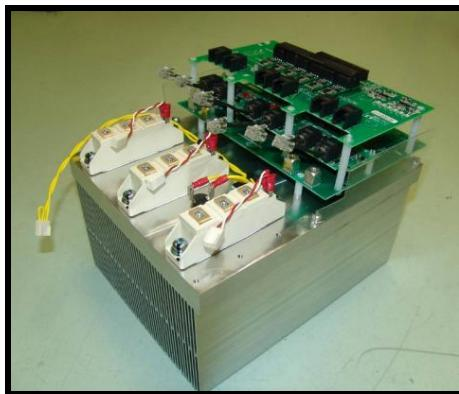

Figure 7.3.31
- 1) Take the thyristors and the lower gate drive board and spread the thermal-conductor paste on the bottom (see figure 7.3.31).